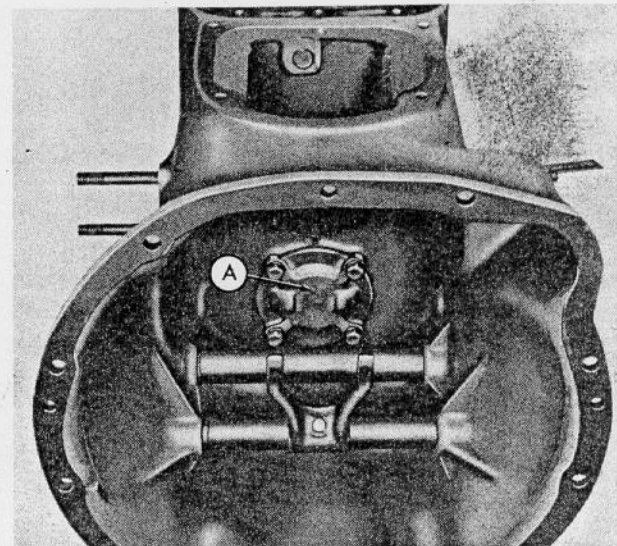

Fig. 6
**Step 8**—Remove the countershaft front bearing retainer (A-Figure 6).